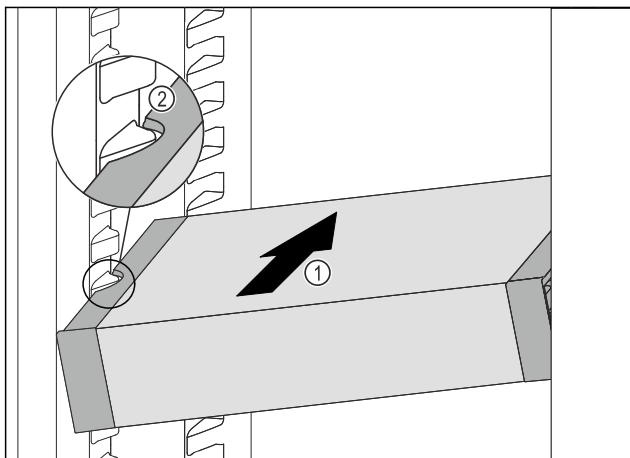

Fig. 89
- ▶ Insert the VarioSafe into the fridge section at an angle *Fig. 89 (1)* until the recesses in the side *Fig. 89 (2)* of the VarioSafe are at the level of the support rib in the fridge section.